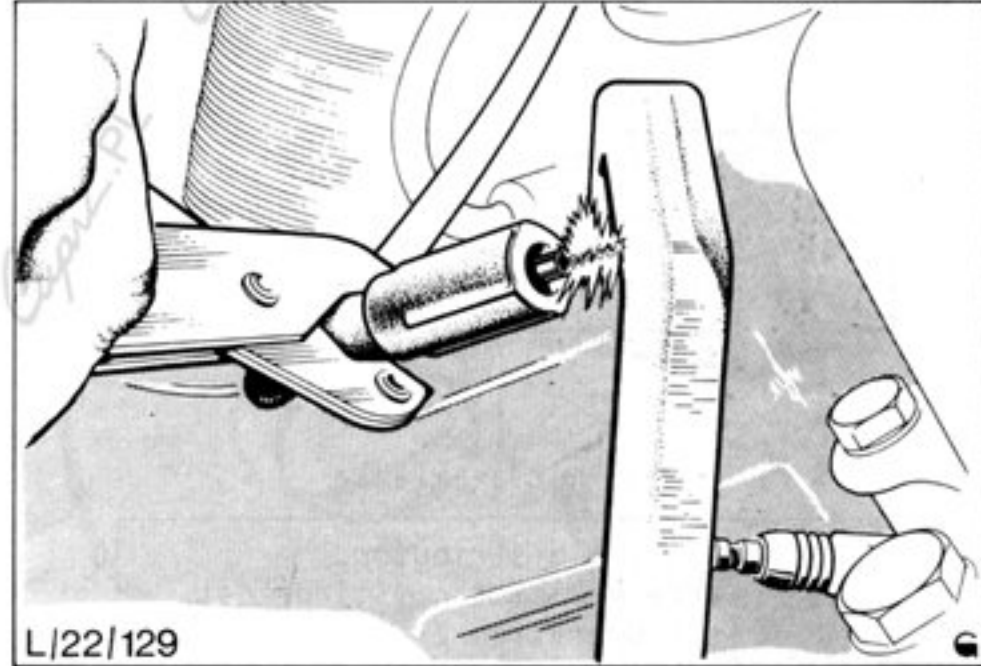

Fig.25. HT output test of No.1 plug lead using insulated pliers.
3. Using insulated pliers hold lead approximately 5 mm (0,2 in) away from the cylinder block and using ignition switch crank engine. HT voltage will spark between electrode and block, Fig.25.